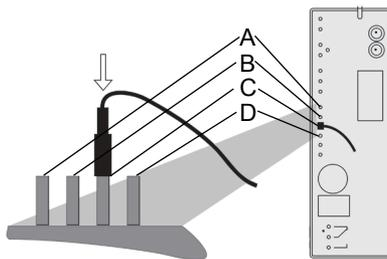

Fig. 8: Time control
3. Select the desired time interval for the time-controlled automatic backwashing process on the control electronics of the automatic system. To do this, attach the cable lug of the short cable strand to the pin with the inscription corresponding to the desired time interval (see Figure 8).